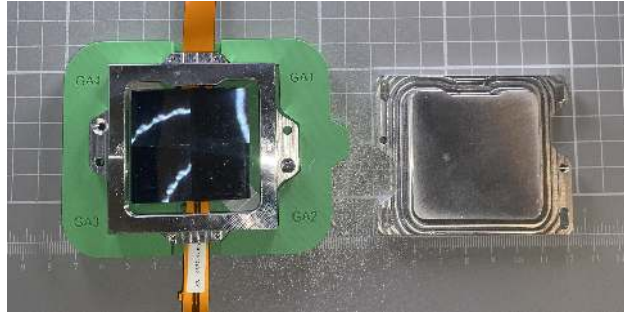

Figure 7: Backside orientation for visual inspection.
- Carefully lift the module off of the base plate and place upside down inside of the green holder shown in Fig 7.